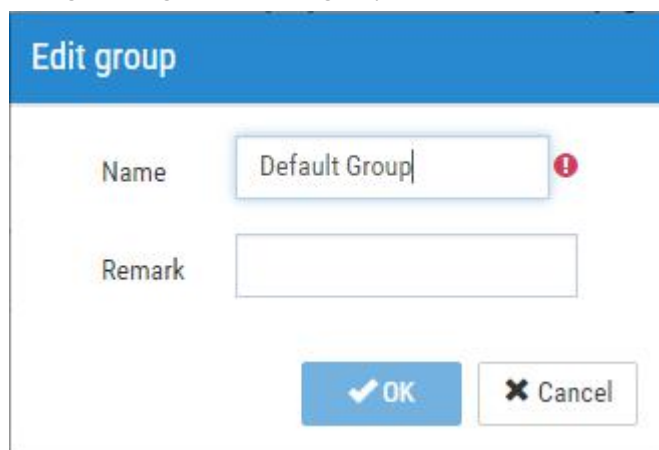

Fig. 4.8-4 The "Edit group" dialog
(2) After clicking the " " button in the "Group Settings" dialog, the "Edit group" dialog will pop up, as shown in Fig. 4.8-4. In this dialog, you can modify the name and add a remark for the current group. After completing editing, click the "OK" button to confirm. After clicking the " " button in the "Group Settings" dialog, the current group will be deleted.